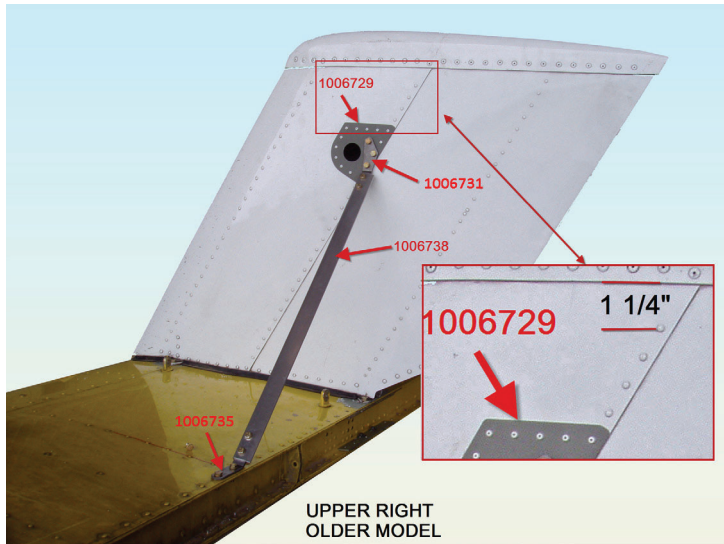

FIGURE 1
NOTE: See figures 1 and 2 to identify older model finlet versus newer model finlet
4. Fit 1006729 external doubler on both sides of finlet using figures 1 and 2. Note that the new style external doubler is now made of .063" aluminum and needs to be pre-bent to conform with the bend of the finlet skin